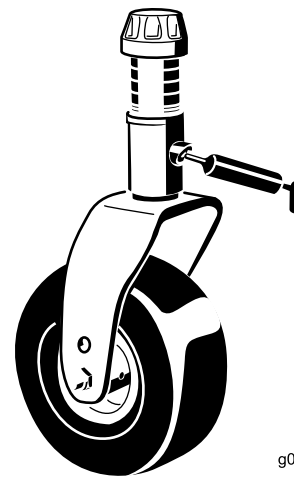

Figure 69
- 2 castor-fork-shaft bushings (Figure 69)